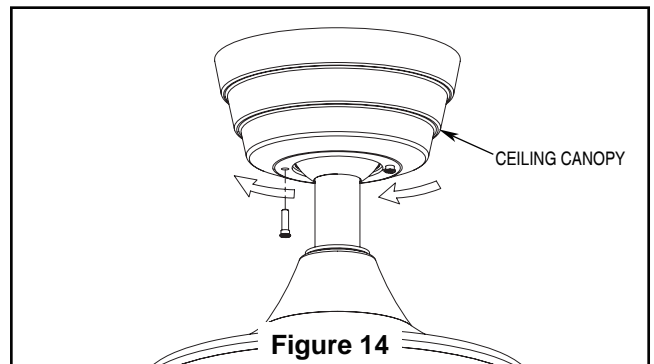

**Figure 13**
- 3. After splicing and making the wire connections, the wires should be spread apart and turned upward with the grounded conductor and the equipment-grounding conductor on one side of the outlet box and the ungrounded conductor on the other side of the outlet box. (Figure 13)